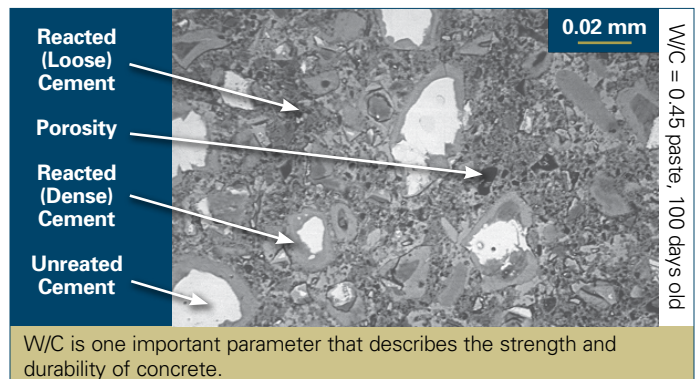

FIGURE 1 – POROSITY
**Porosity** is the ratio of the volume of openings (or voids) to the total volume of the material. It basically represents the storage capacity of the material. Concrete is inherently porous, although a sealer can be added to the concrete surface to prevent water penetration. It's practically impossible to make an absolutely nonporous concrete where water won't penetrate even a fraction of an inch. However, we can control the size and distribution of those pores and limit the penetration. The pores, which are tiny voids, reside in the cementitious paste (see Figure 1) and can be subdivided into two types: gel pores and capillary pores. The gel pores exist in every system and are part of the glue that forms around the aggregate to make concrete what it is. Gel pores are very small and not a real problem.